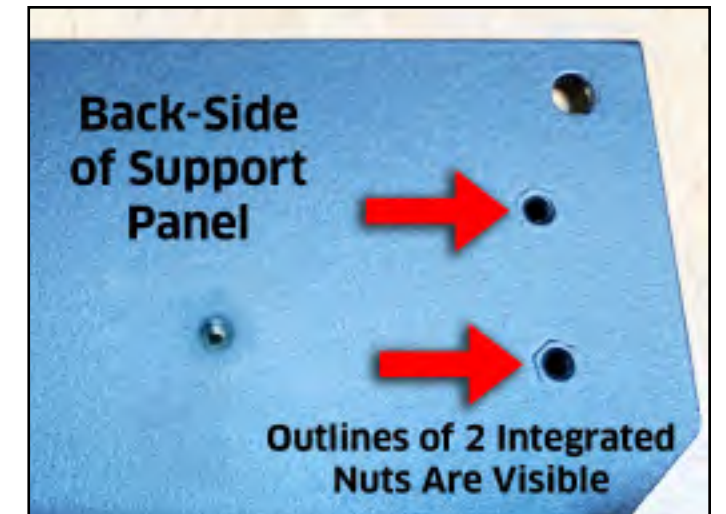

Figure 5-13
1. Identify the back-side of the X-Axis drag chain support panel. See **Fig. 5-13**.